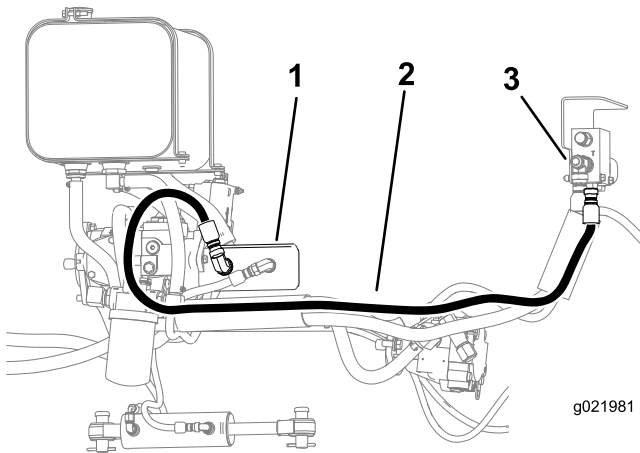
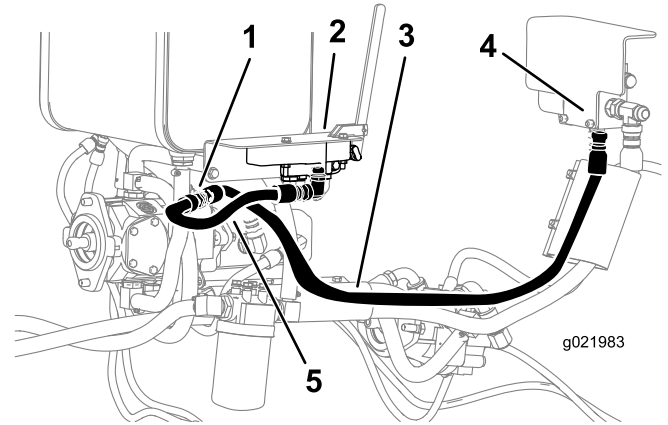
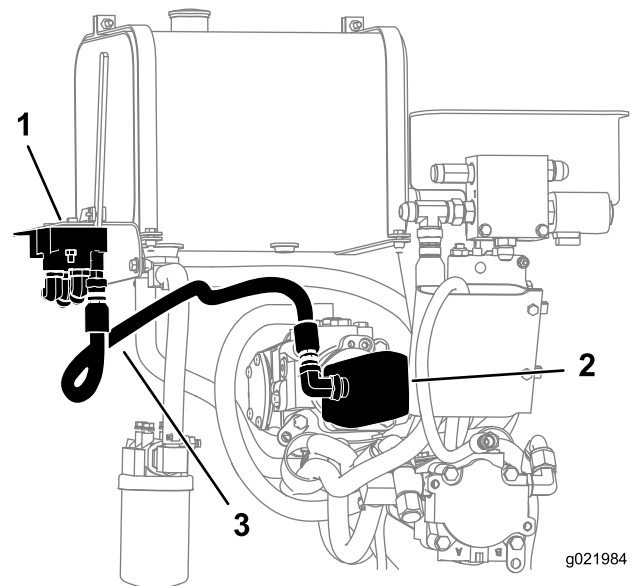

Figure 16
Figure 17
Figure 18
- Disconnect hose A from the hydraulic pump (Figure 16), add the hose connector, and connect hose B to the other end of the connector (Figure 17).
- Connect hose B (14 3/4 inches) to the 90-degree fitting (Out port) on the control valve (Figure 14 and Figure 17).
- Connect hose C (36 inches) to the straight fitting (In port) on the control valve (Figure 14) to the hydraulic pump (where Hose A was previously installed (Figure 16); refer to Figure 18).